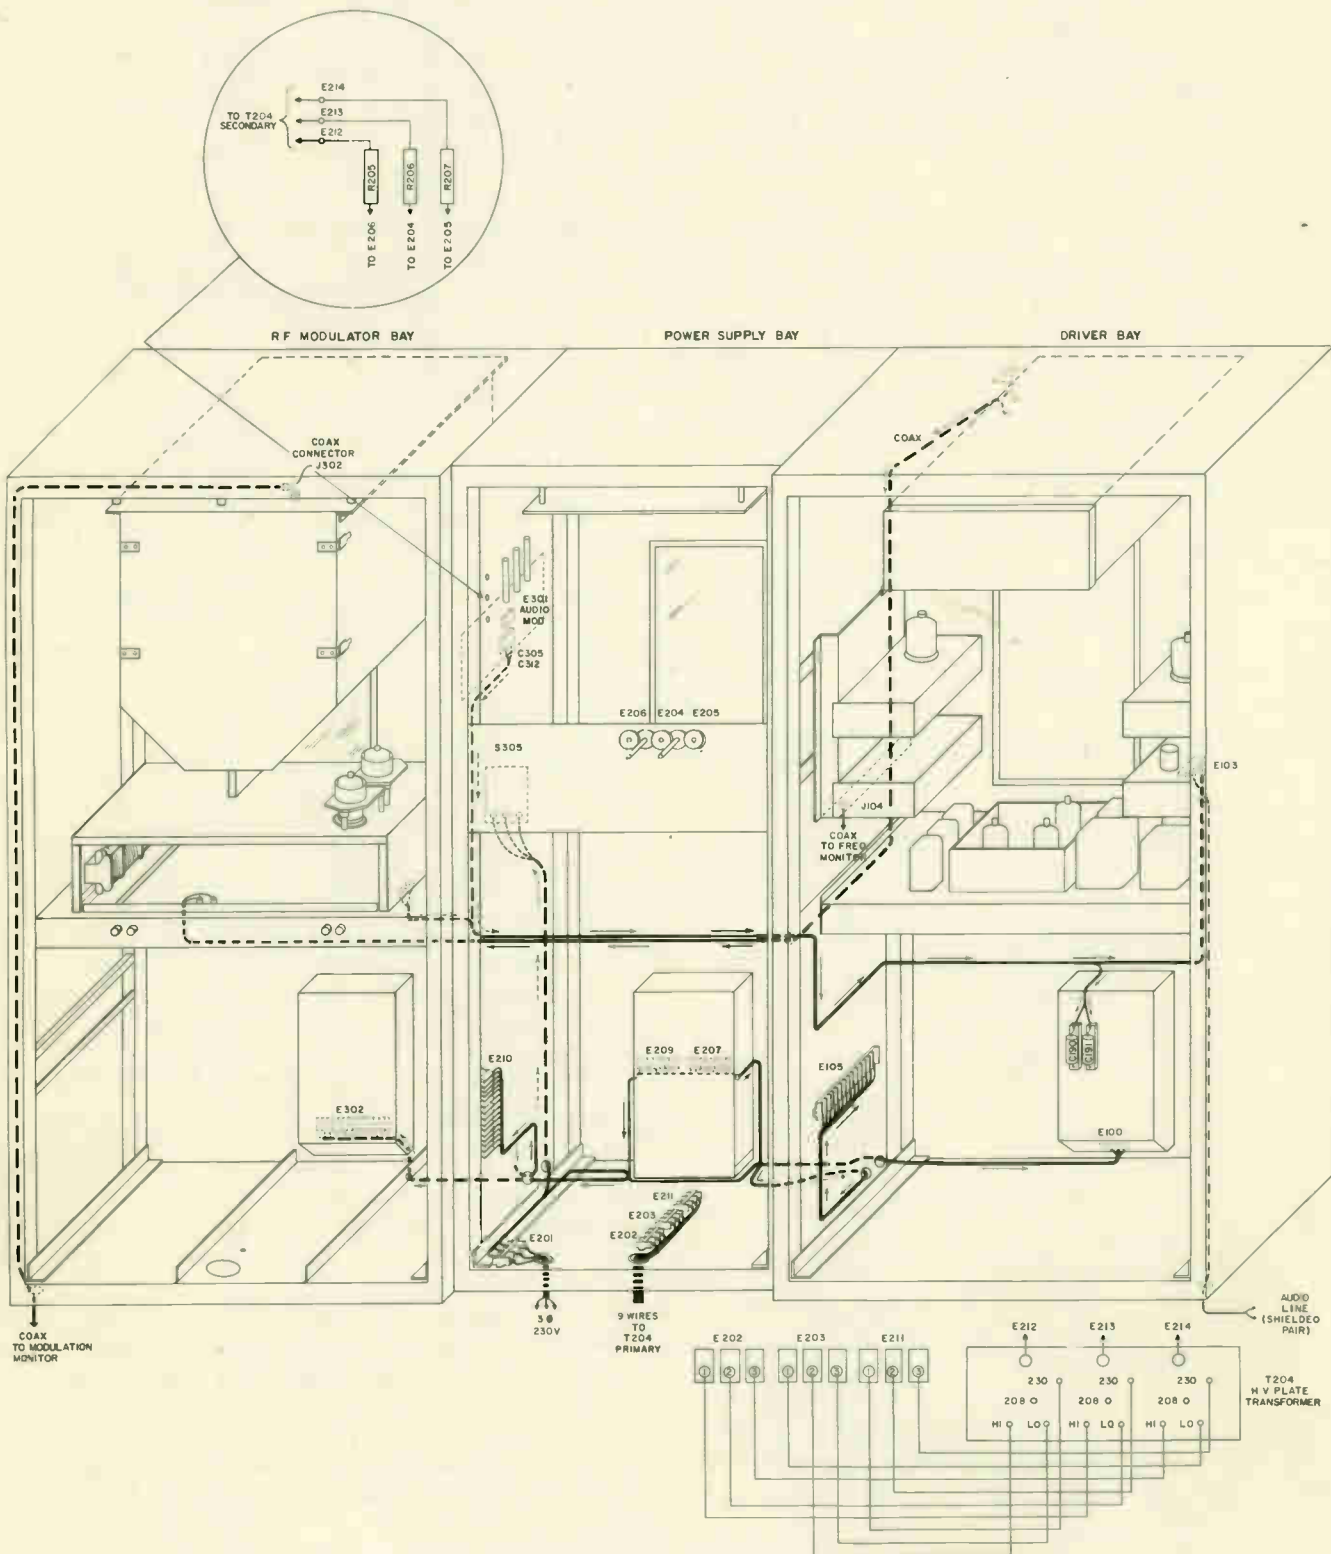

Figure 2-2. Cabling Details
a. Place the power cabinet frame in the center position on the mounting frame; shove the associated power wires and ground wire through the base holes progressively as the power cabinet frame is shoved into position. See figure 2-2.
e. Feed the interconnecting cables from the power cabinet through the side-walls of the amplifier and driver cabinets. See figure 2-2.
- d. Install and connect the audio compensating board as shown in figures 2-2 and 7-2.
- f. Install surge resistors R-205, R-206, and R-207. (See figure 2-2.)
o. Make all other base connections at this time. See figures 2-2 and 8-5.
i. Complete all internal connections including interchassis cables and connections to terminal boards E-101 and E-102 on the rear of the low voltage power shelf. Refer to the Installation Connections Diagram, figure 2-2, to the Interunit Cable Diagram, figure 8-3, and to tags on the wires for assistance in making the proper connections.
Nine wires connect the high voltage power transformer T-204 to connector blocks E-202, E-203, and E-211. See figure 2-2. These wires enter the power cabinet through the right-hand 1 1/2" grommet. Cut these to length and connect them to their terminations with solder lugs. Be very careful to observe correct phasing here. See cabling schematic figure 8-4, and pictorial diagram figure 2-2 for proper transformer connections. Incorrect phasing will result in shortened rectifier tube life.
Coaxial frequency monitor connector J-104 is located on the bottom of the r-f chassis as shown in figure 2-2. The transmitter is shipped with a mating plug connected to J-104. Bring a piece of RG-8/U coaxial cable through the proper hole in the floor of the cabinet as shown in figure 2-1. Connect the coax to the plug associated with connector J-104.
Coaxial modulation monitor connector J-302 is supplied with the proper mating plug. Figure 2-2 shows this connector located on the top of the r-f output network box. Thread a piece of RG-8/U coaxial cable through the proper hole in the floor of the cabinet as shown in figure 2-2. Connect the coax to the plug associated with connector J-302.